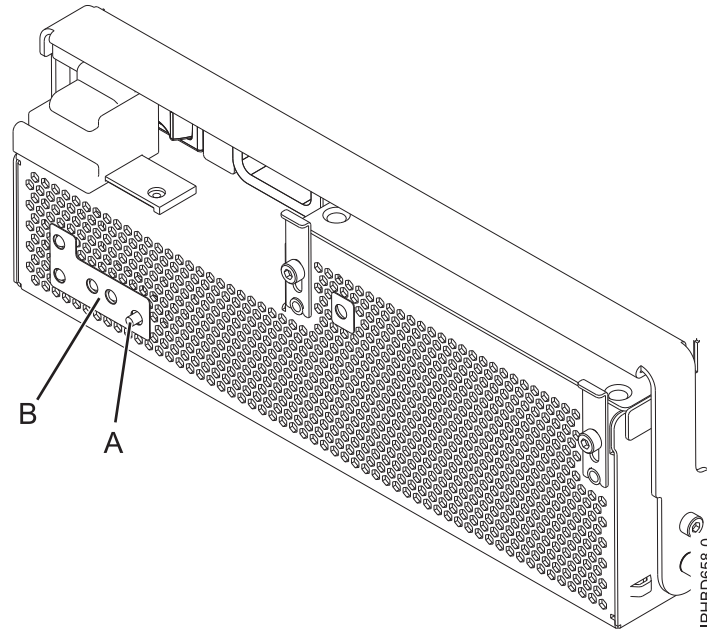

Figure 66. Fan fault LED
**Note:** If you replaced a power-supply fan as part of this procedure, note the state of the fan fault LED (B) as shown in Figure 66 on page 78. If the LED is off, indicating that both fans are operating